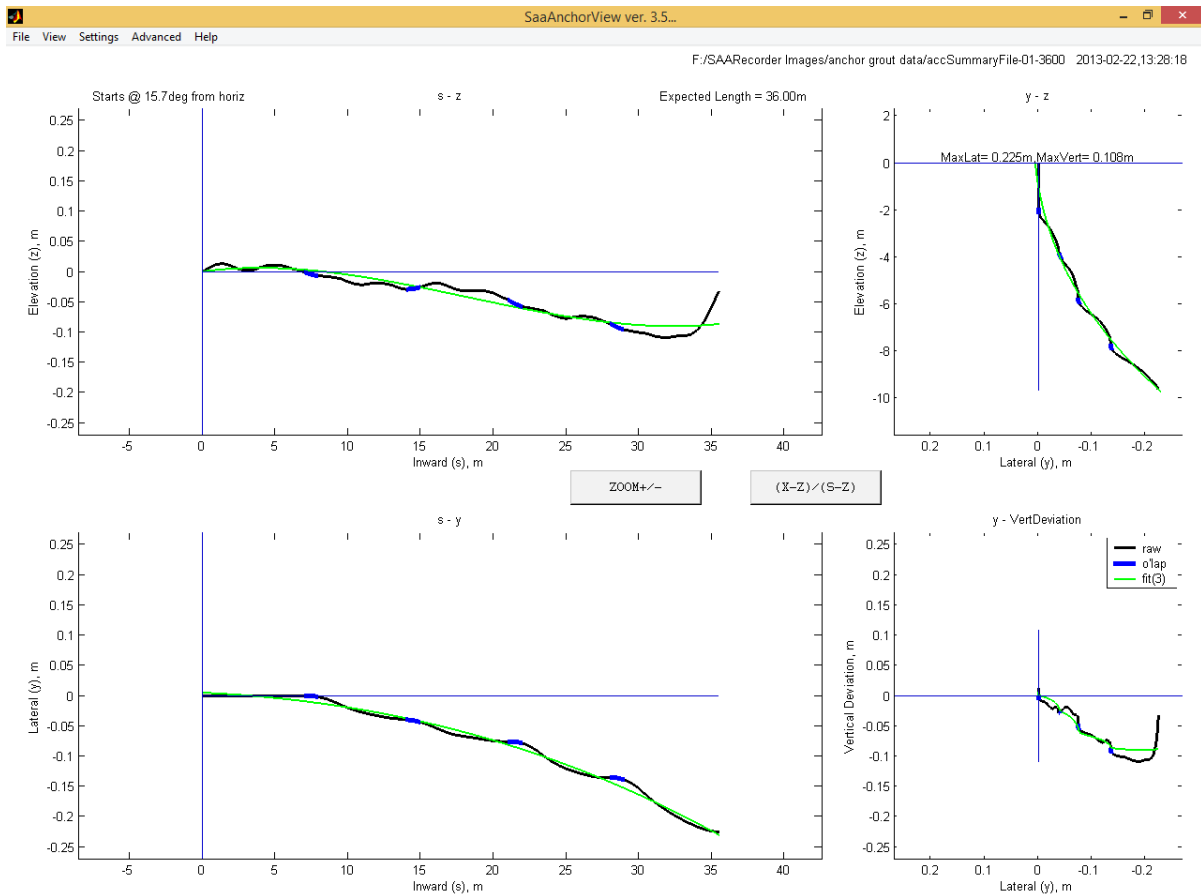

Figure 6.43: The display view after clicking the '(X-Z)/(S-Z)' button.
- After clicking the '(X-Z)/(S-Z)' button, see **Figure 6.43**.